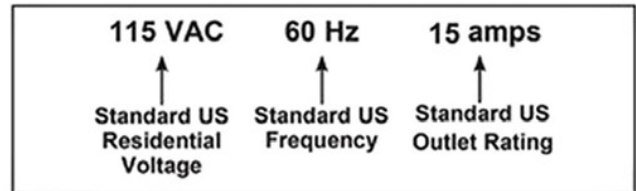

Figure 1
- TRUE's recommendation is to leave a 39" safety zone at rear of bike. The sides of the bike should be at least 20" away from the wall or obstructions. (See Fig 1)